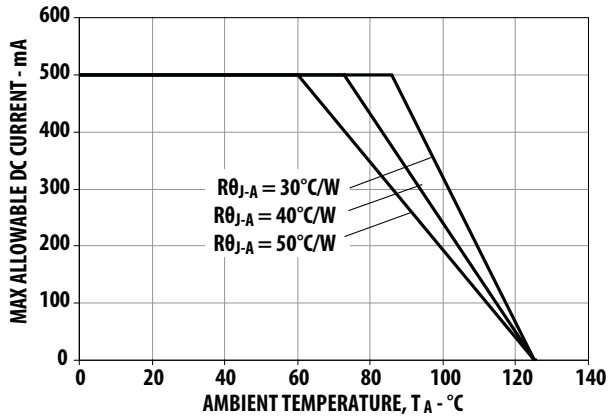

Figure 10. Maximum Forward Current vs. Ambient Temperature.
1. Derate linearly based on Figure 10 for AllnGaP and Figure 22 for InGaN.